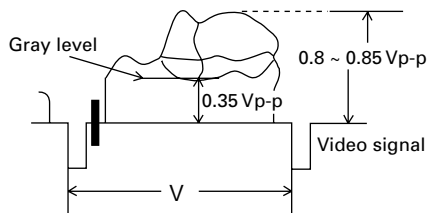

Fig.8
Viewing highbright object, adjust THRESHOLD VR (VR802) by turning it clockwise so as video output level of camera to be clipped at 0.8~0.85Vp-p. (See Fig.8)
6. Set gray level shown in Fig.8 to 0.35Vp-p by turning GRAY VR (VR804) to clockwise or counterclockwise.